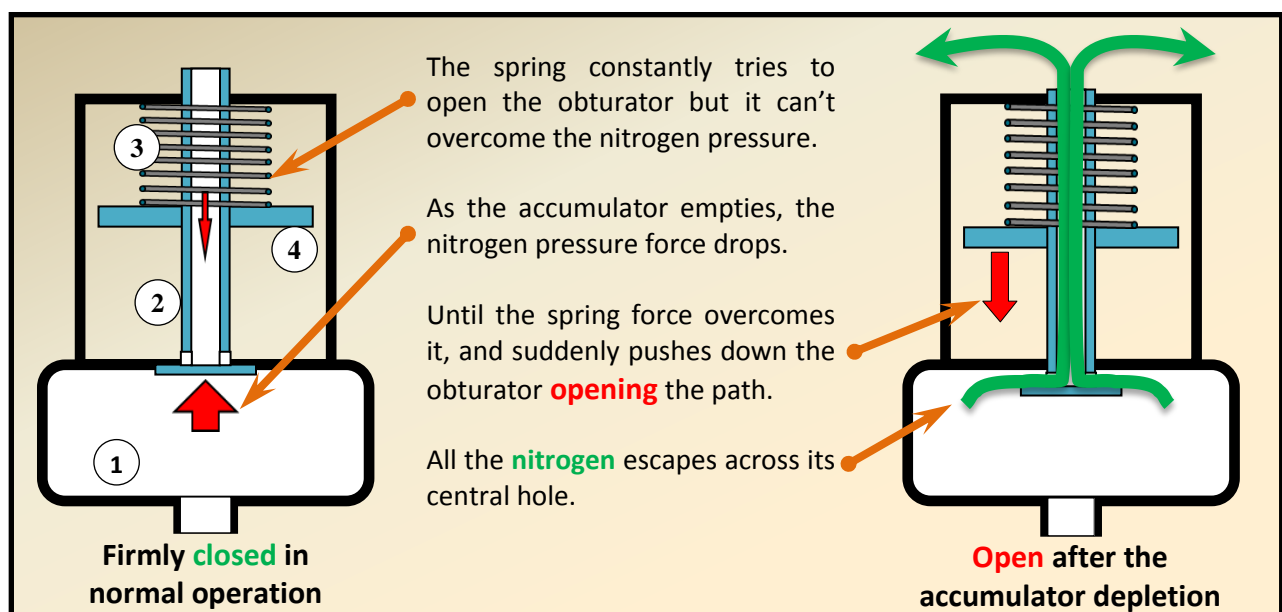

Figure 2. ASVAD valve simplified operation diagram.
Figure 2 illustrates a simplified concept of the ASVAD Valve. It consists of a pressurized chamber (1) connected to the accumulator nitrogen side. A hollow obturator (2) seals this chamber with a gasket. There is a preloaded spring (3) with an adjustment disc (4) threaded over the actuator.